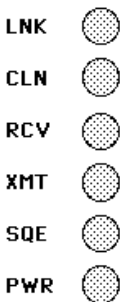

Figure 2-2. LANVIEW LEDs
**NOTE:** The FOT-F3 has six LEDs (Fig. 2-2), which are explained in detail in Chapter 4, **Testing and LANVIEW**.